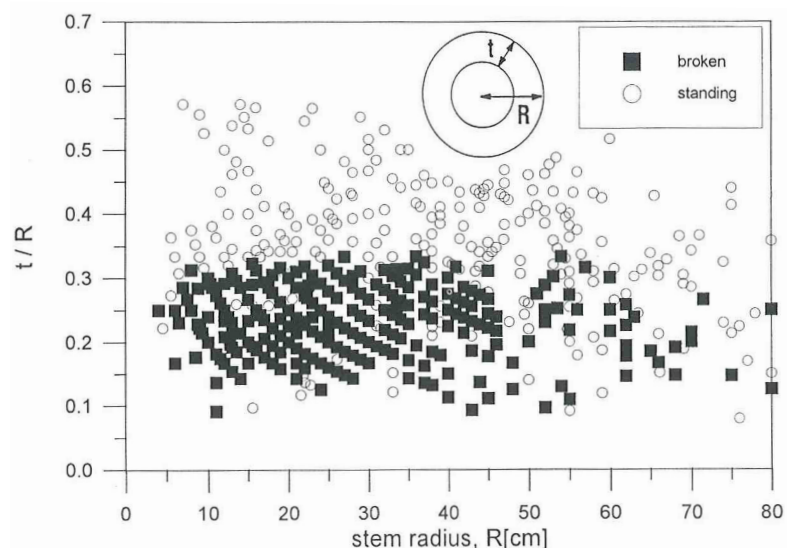

Figure 1
Shortly after the first presentations, the so-called “one-third-rule” (see for example: Mattheck et al. 1993) became a popular criterion for evaluating the breaking safety of urban trees around the world: as soon as the thickness of the outer intact shell-wall (t) of a hollow or decayed tree stem is less than $1/3$ of the local radius (R), this stem section was supposed to be significantly more likely to break under wind loads. Many arborists, and probably even more judicial and insurance experts around the world, interpreted the corresponding graph (Fig. 1) as defining a clear line between “safe” and “unsafe”. As a central part of the so-called VTA concept (“Visual Tree Assessment”: Mattheck & Breloer 1994), the $t/R > 1/3$ -rule is still the most commonly applied tree-breakage safety threshold around the world.
Two of many examples of broken conifer trees (*Picea abies*) not represented in Fig. 1. The tree on the left had a small defect in the center of the stem base with $t/R \approx 1/2$ but broke on a height where $t/R = 4/5$. The tree on the right was fully intact ($t/R = 1$) and broke in a combination of torsional and dynamic loading in a wind gust of a thunderstorm (while the author was standing beside the tree inspecting the stem). Such failures should be represented by at least a few black squares above the 1/3-line in Fig. 1, but, such values are missing.
which the data for the 1/3-rule graph (Fig. 1) was derived.